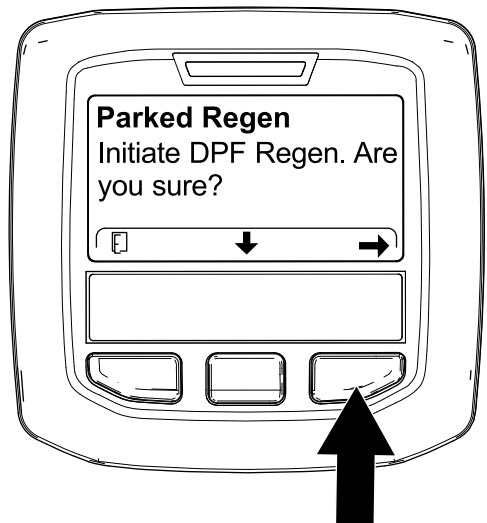

Figure 54
- At the INITIATE DPF REGEN screen, press the right button to continue (Figure 54).